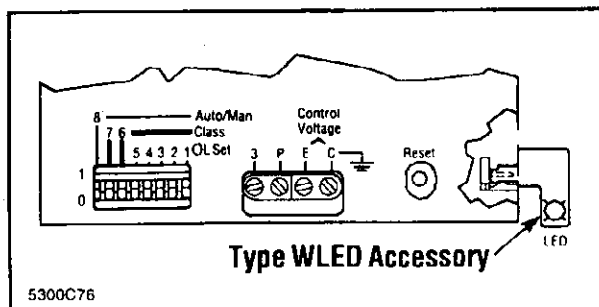

Fig. 3 DIP Switch, Terminals and Reset
6. Set the 8-position DIP switch beneath the nameplate (Figure 3) for motor FLA and Class 10 protection. See separate instruction sheet: OVERLOAD PROTECTION SETTINGS.